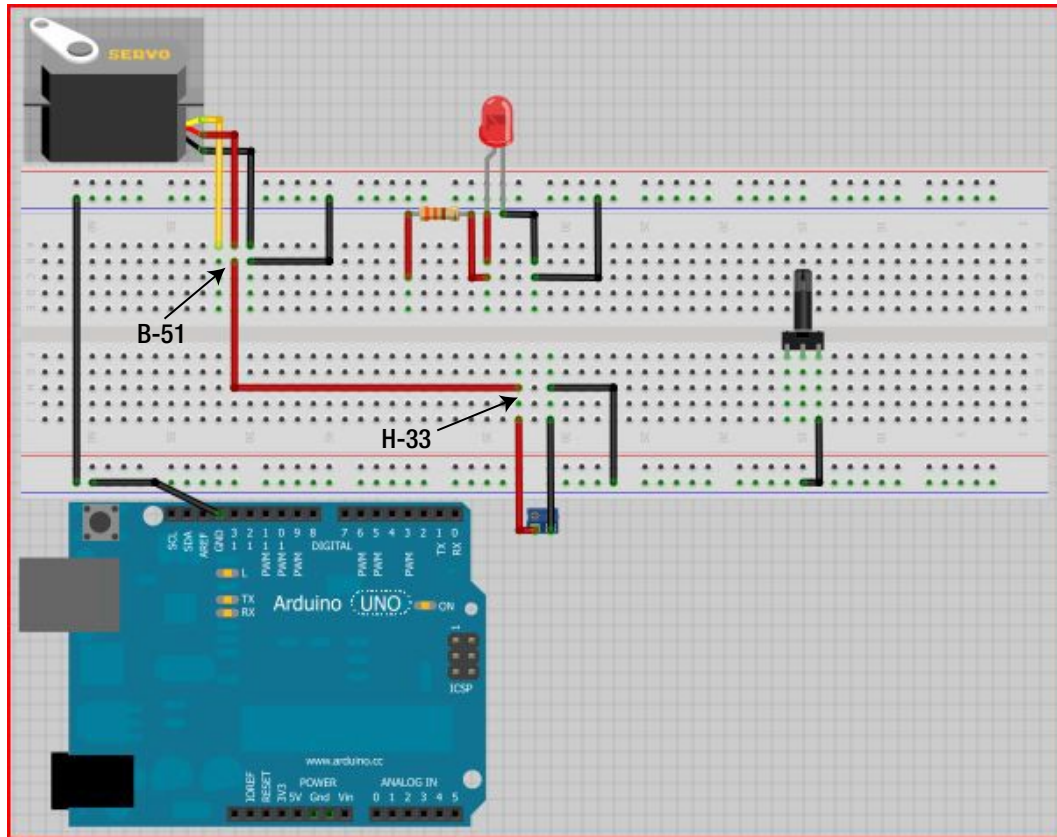

Figure 23-12. Connect power from the two-position terminal block to the servo
- Next, connect the power side of the two-position terminal block (H-33) to the servo power (B-51). We used a red wire. Figure 23-12 illustrates this process.